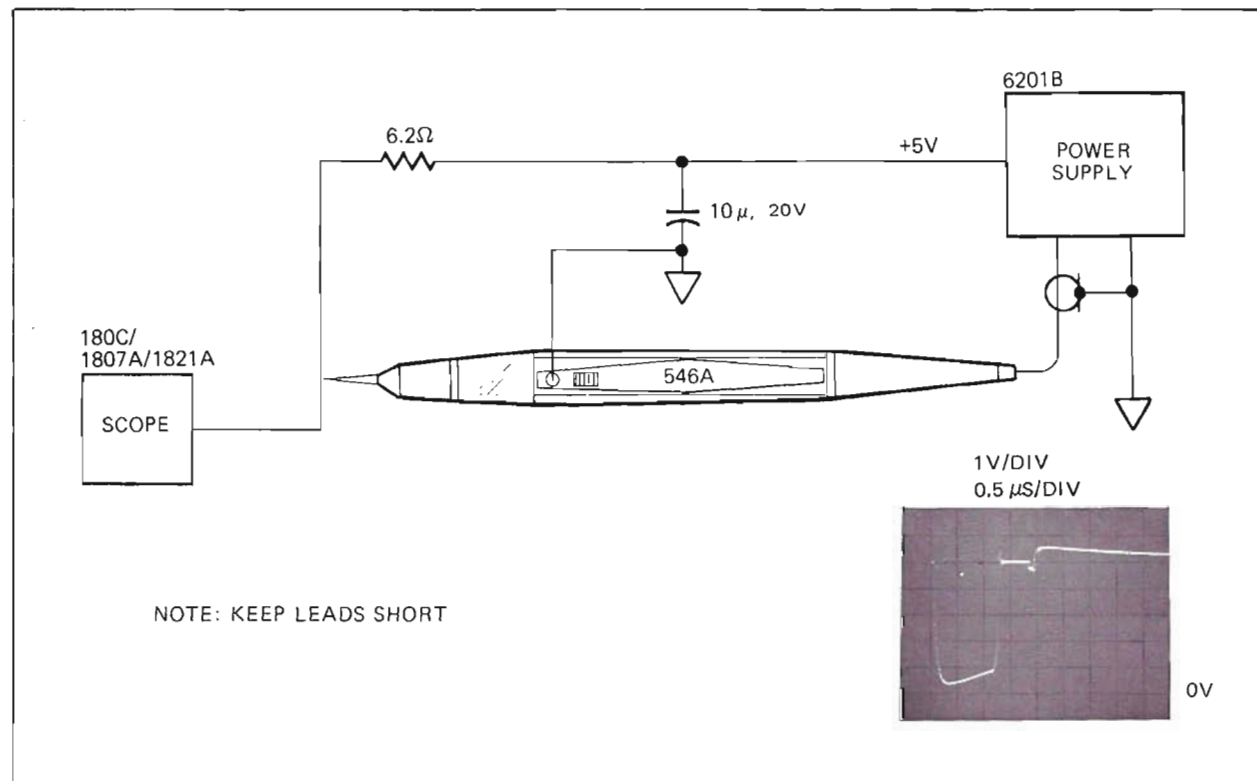

Figure 11. "0" Output Pulse at 5V Test Setup
Connect the equipment as shown in *Figure 11* and proceed as follows:
- b. Press Pulser pushbutton and latch while observing oscilloscope for the waveform shown in *Figure 11*.